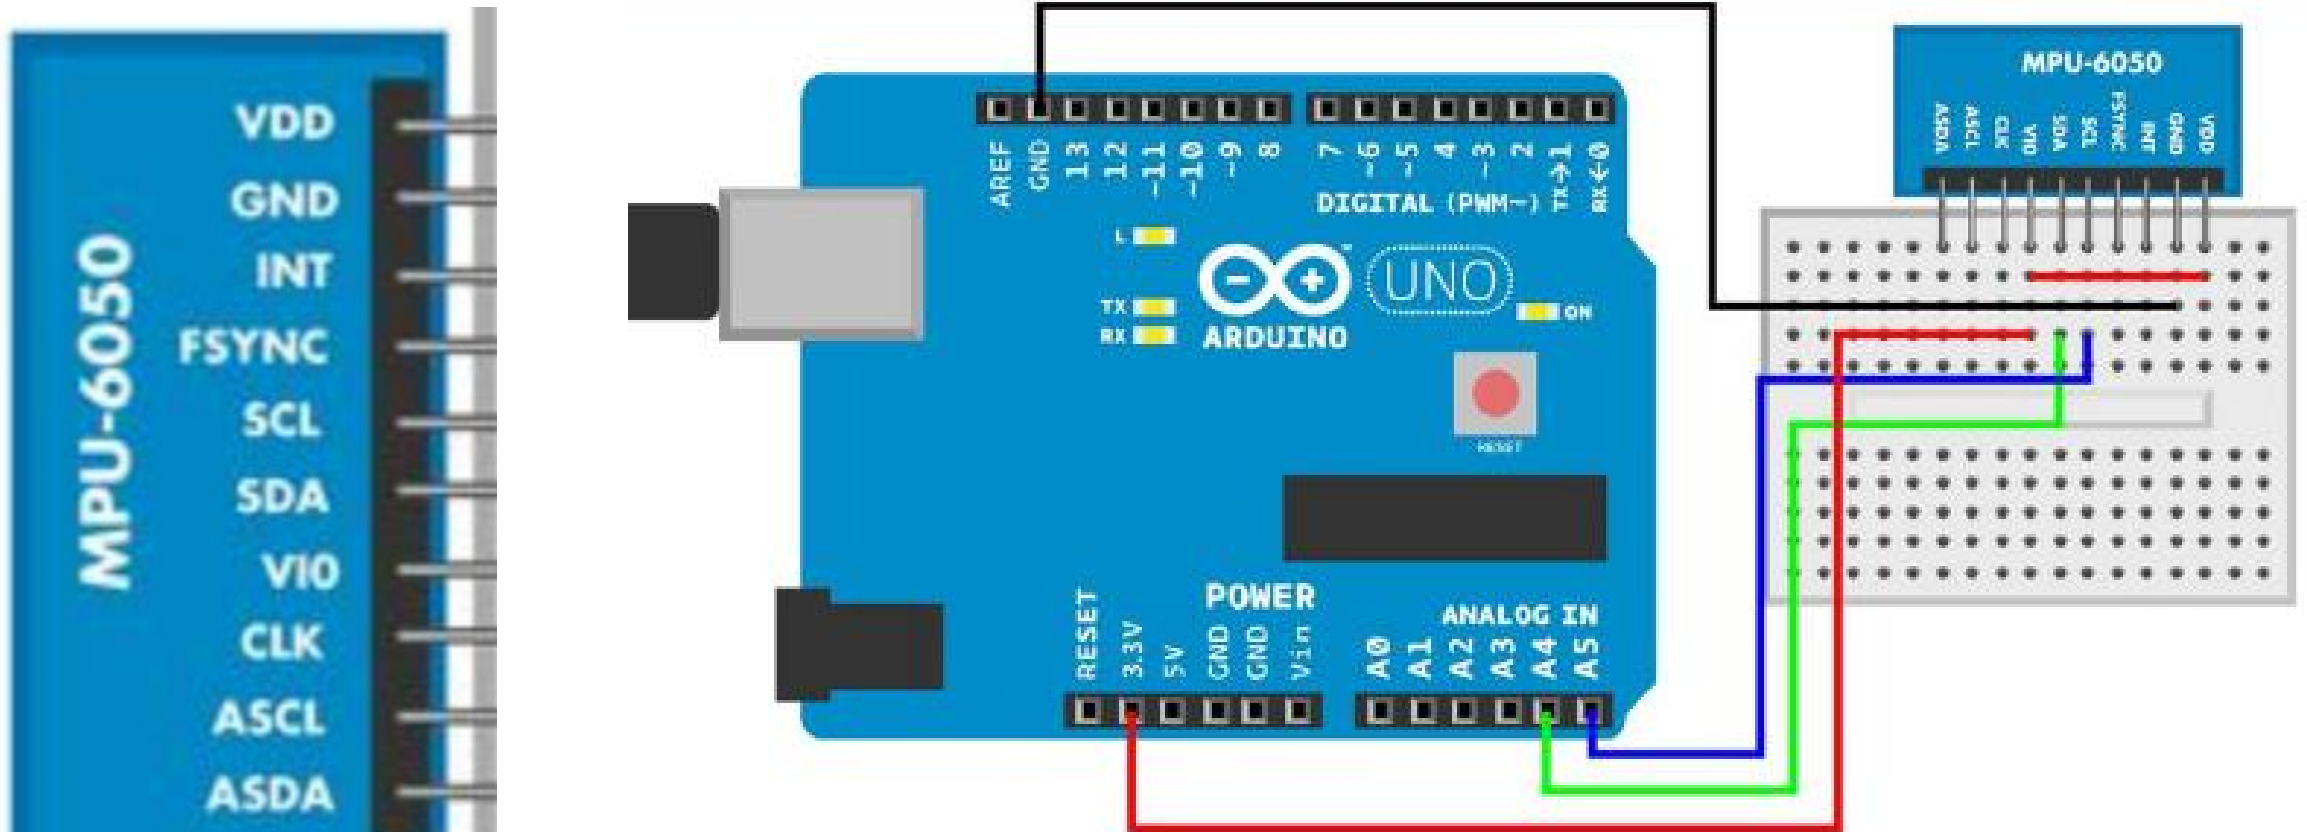

Figure 8-5. MPU 6050 (accelerometer+gyro) circuit for Arduino
- Figure 8-5 shows the wiring diagram for Arduino. Hook everything up, and then run the code in Example 8-3.